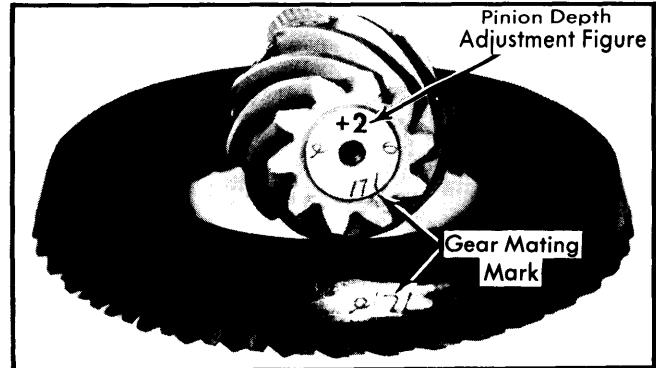

Fig. 7 Pinion and Ring Gear Markings Showing Pinion Depth Adjustment Figure
3) If new pinion and ring gear assembly are to be installed, proceed as follows: Determine pinion depth adjustment figure (See Fig. 7) of old and new pinions and find shim adjustment figure from chart. Adjust original shim pack accordingly and proceed as in step 2).